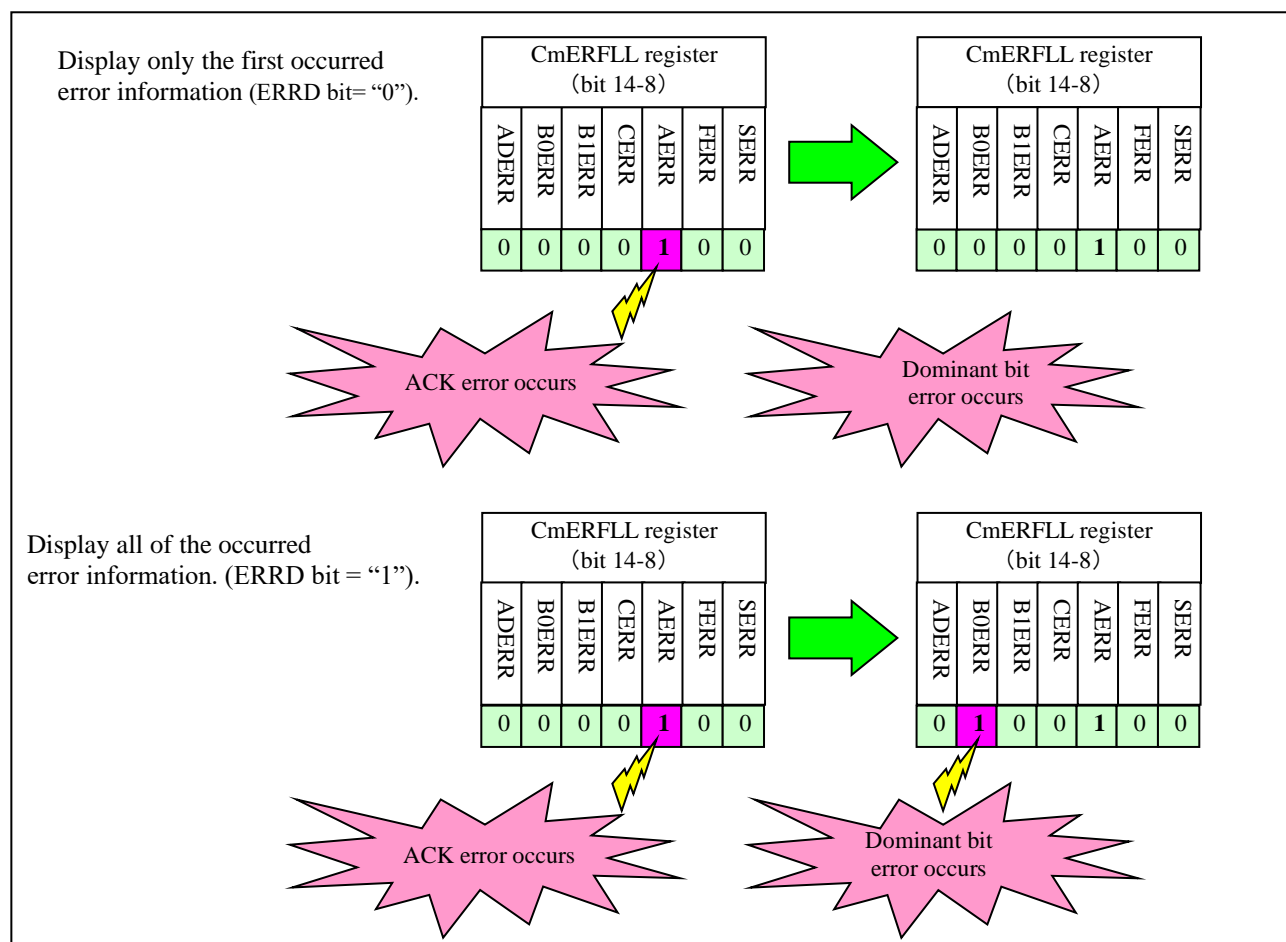

Figure 8-5 Operation Example of Error Display Mode
**Figure 8-5** shows the operation example of CmERFL register in each error display mode.